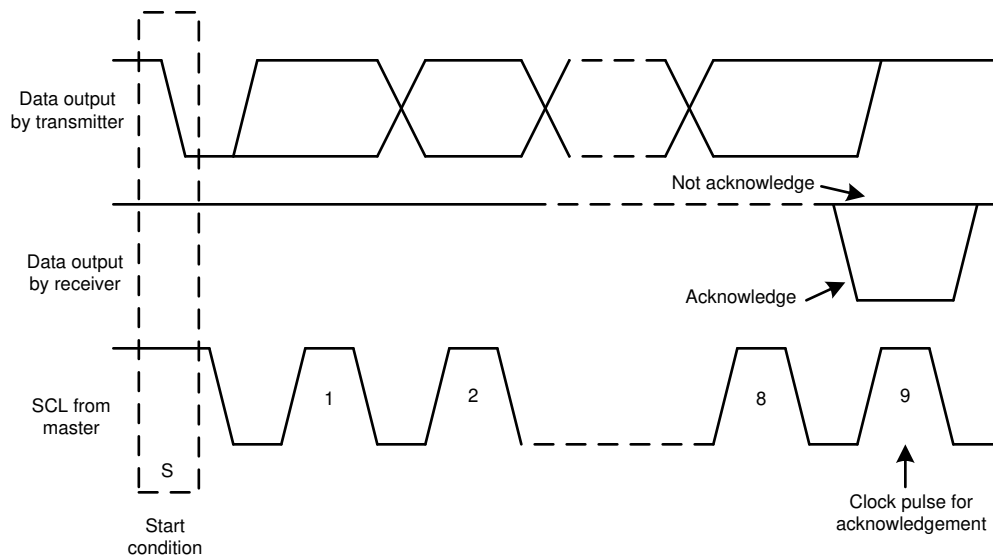
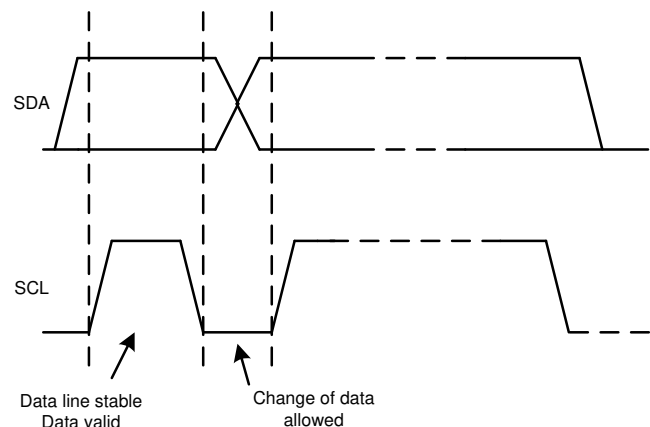

图 50. Acknowledge and Not Acknowledge on the I²C Bus
图 52. Bit Transfer on the I²C Bus
Other than specific timing signals, the I²C interface works with serial bytes. At the end of each byte, a ninth clock cycle generates and detects an acknowledge signal. Acknowledge is when the SDA line is pulled low during the high period of the ninth clock cycle. A not-acknowledge is when the SDA line is left high during the high period of the ninth clock cycle as shown in Figure 50.
2. The master then generates the SCL pulses, and transmits the 7-bit address and the read/write direction bit (R/W) on the SDA line. During all transmissions, the master makes sure that data are valid. A valid data condition requires the SDA line to be stable during the entire high period of the clock pulse, as shown in 图 52. All devices recognize the address sent by the master and compare the address to the respective internal fixed address. Only the slave device with a matching address generates an acknowledge by pulling the SDA line low during the entire high period of the 9th SCL cycle, as shown in 图 50. When the master detects this acknowledge, the communication link with a slave has been established.